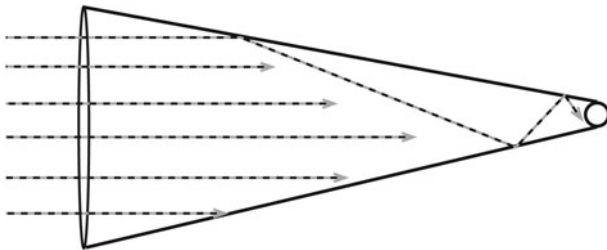

Figure L63-4
4. A cone made of rolled material (Figure L63-4) is the simplest of any focusing tools. Several factors make it less efficient than either of the previous options. The resulting signal is muddy, but it does work.